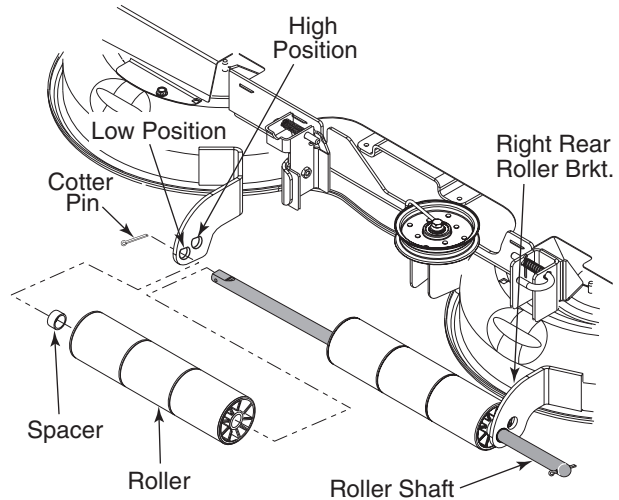

Figure 6-12
- Remove the cotter pin from the left end of the roller shaft. See Figure 6-12.
- Slide the roller shaft to the right and remove the rollers as the shaft is fully withdrawn from the right rear roller bracket. See Figure 6-12.